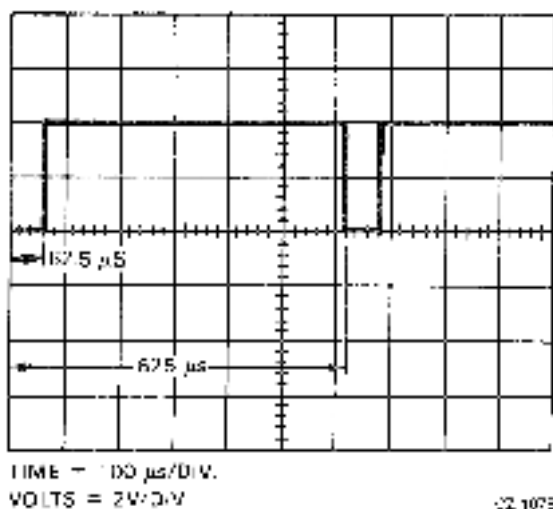

Figure 9-2 Sector Pulse Timing
6. Set the oscilloscope to sync internal, negative-going. The signal displayed on the oscilloscope should be the same as in Figure 9-2. Sector pulse width should be 62.5 microseconds. Correct disk speed ranges from 594 microseconds to 639 microseconds, with 624 being the desired norm. The sector pulses should be stable at some time period within that range.